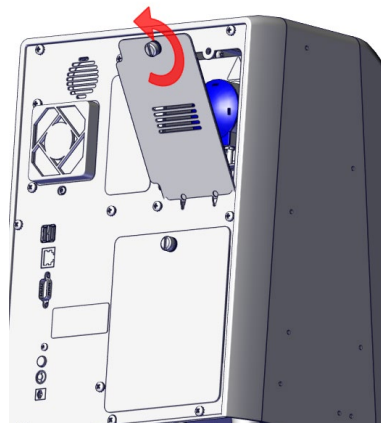

Figure 18
15. Remove the Wash Pump Access Door (located on back of instrument) by turning the Thumb Screw counterclockwise and pulling the door outwards and upwards. See Figure 18.